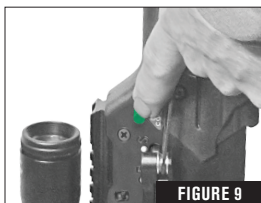

FIGURE 9
- Depress the De-Cock button on the crossbow (Fig. 9).